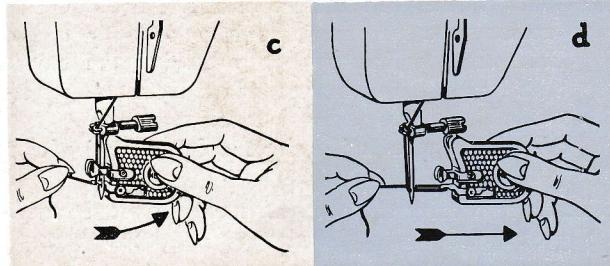

Fig. 15
- b) Now, by hand, pull the needle thread which will draw the lower thread up through the stitch hole in the needle plate, as shown in Fig. 15. Place the two threads to the rear of the presser foot.